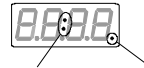

Fig. 10 Control output value Set point
- b) Push FUNC key again, the display will show the operative or final set point (as set for the "SP.dS" parameter), the decimal point as shown in Fig. 10 is lit.
- c) Push FUNC key again, the display will show the control output value, the two points as shown in Fig 10 are lit. The value of the MAIN control output is shown on the two most significant digits, while the SECONDARY control output is shown on the two least significant digits.